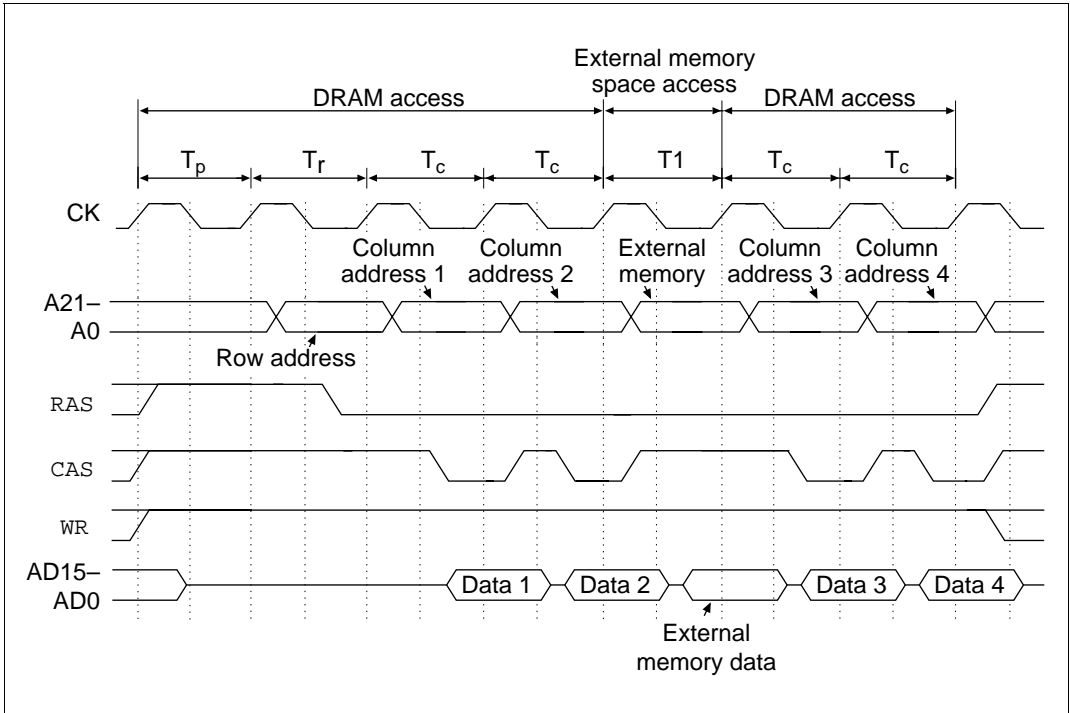

Figure 8.27 RAS Down Mode
- **RAS Down Mode:** When the RASD bit of DCR is set to 1, the DRAM access pauses and the $\overline{\text{RAS}}$ signal is held low throughout the access of the other space while waiting for the next access to the DRAM area. When the row address for the next DRAM access is the same as the previous DRAM access, burst operation continues. Figure 8.27 shows the timing of the RAS down mode when external memory space is accessed during burst operation.